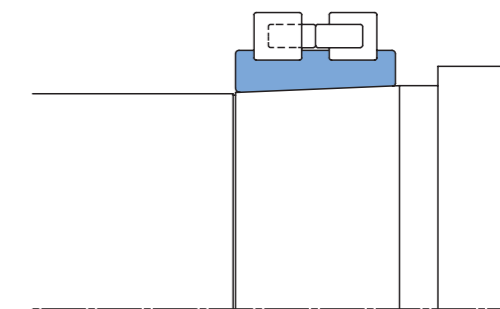
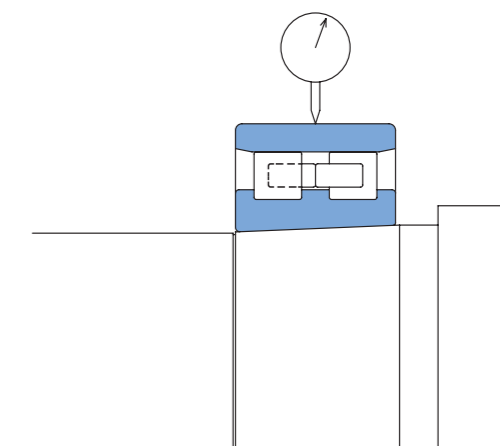
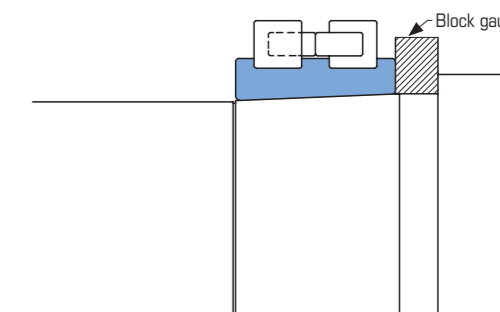

Figure 9.8 Inner Sub-unit Temporary Tightening
Figure 9.9 Radial Clearance Measurement
Figure 9.10 Spacer Temporary Width Dimension Measurement
- ① Check the shaft taper. Coat the taper with a thin layer of bluing; 80% or more contact is required.
- ② Lightly place the inner sub-unit onto the shaft taper (Figure 9.8).
- ③ Place the outer ring and fix the shaft horizontally.
- ④ Touch the center the outer ring with a dial gauge probe.
- ⑤ Pressing down on the outer ring from above, rotate it left and right a few times so it fits well, and then zero set the dial gauge.
- ⑥ Push the outer ring straight up 180° from its position of symmetry (directly below), and rotate it slightly left and right to take a reading of its maximum value (Figure 9.9).
- ⑦ Change the position of the shaft at steps of approximately 30°, measure the axial displacement, and calculate the average of the readings as the value of D R.
- ⑧ Use a block gauge to measure the length to the inner ring edges surface and shaft shoulder (Figure 9.10).
- ⑨ Change the position and use the average of five or six locations as the value for L'.
- ⑩ Use Formula 9.3 to determine the wide dimension of the required spacer.